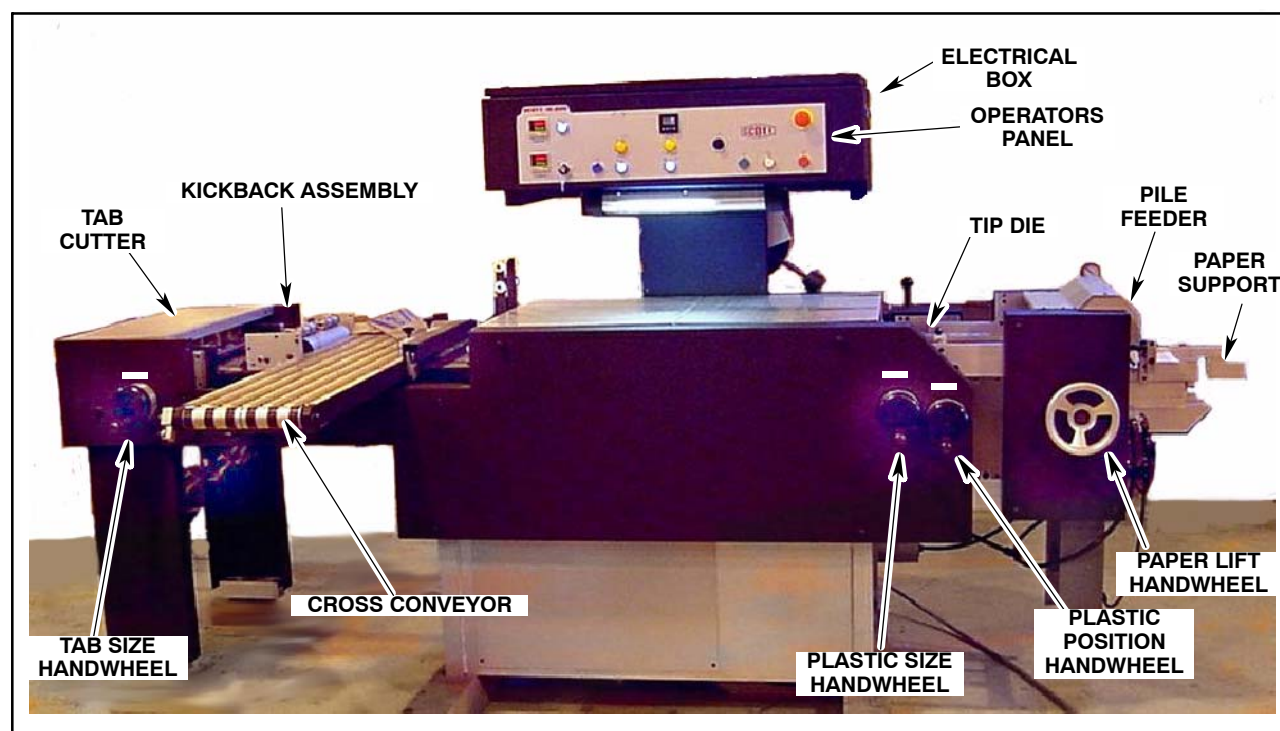
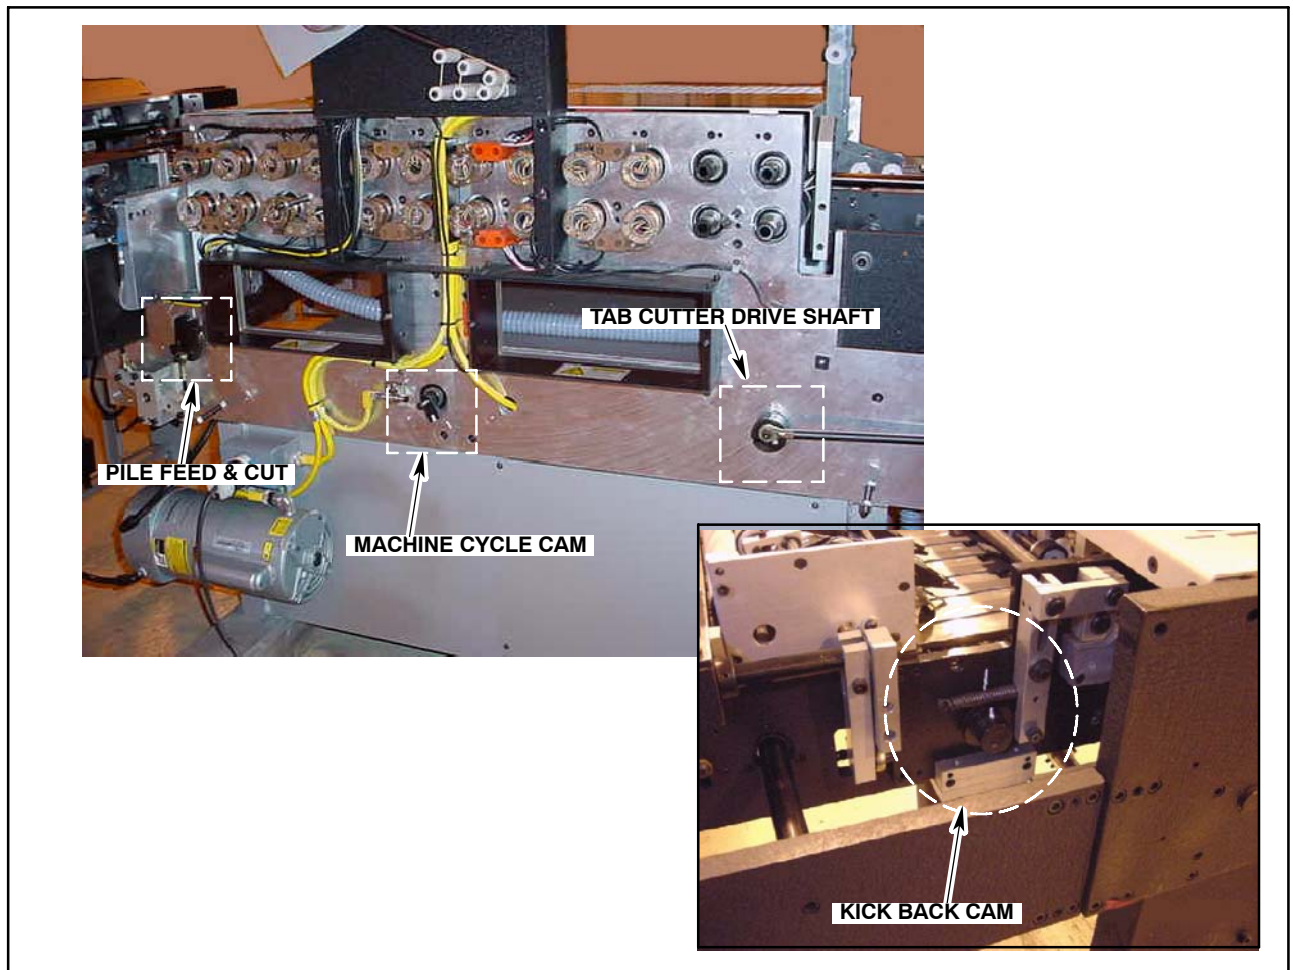
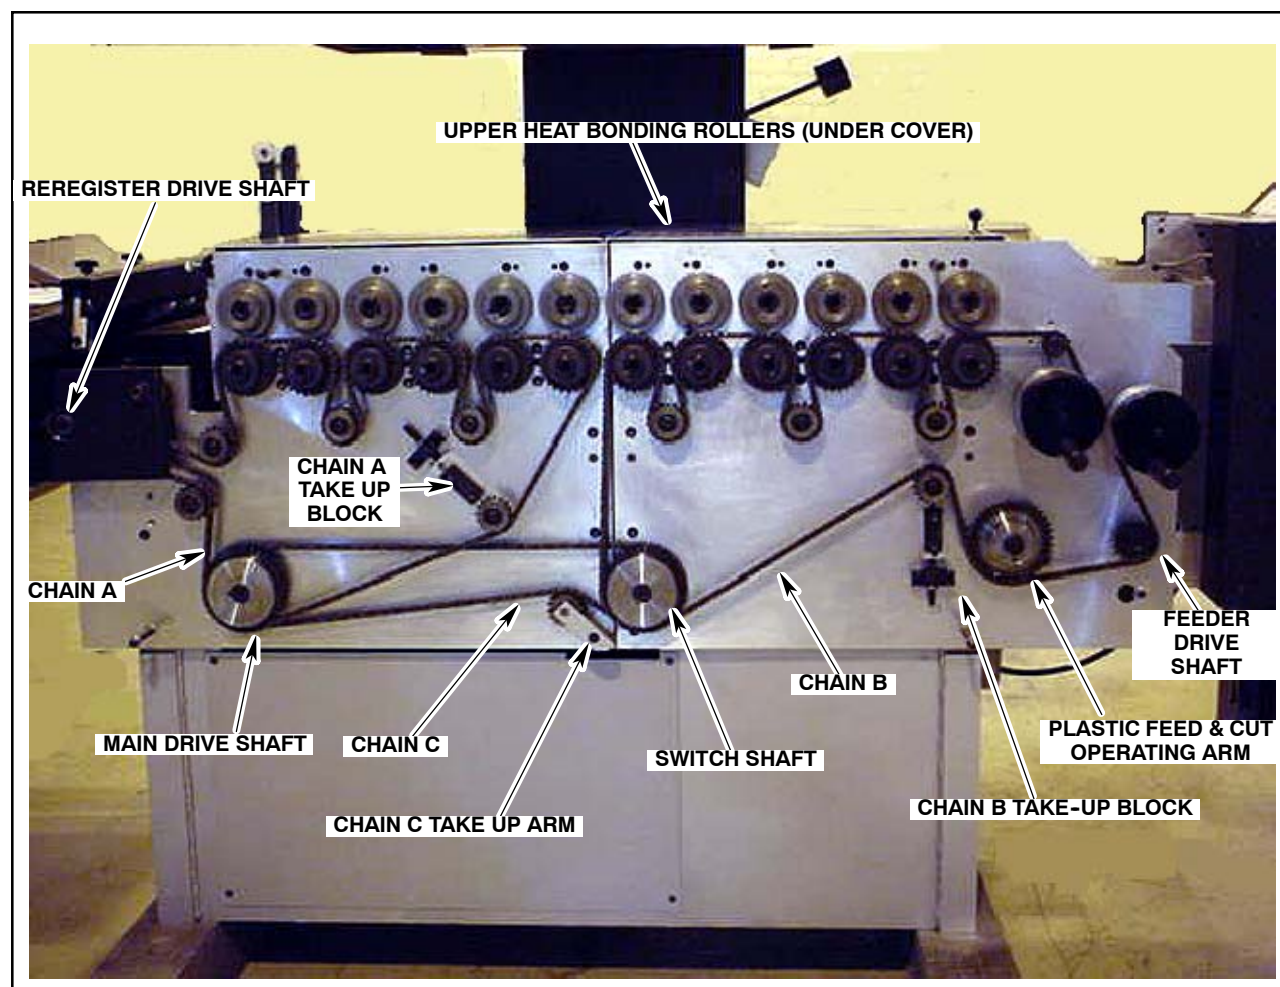

Fig. 4-10. Machine Front View
Fig. 4-11. Machine Back View - Guards Must Be Removed To View Parts
Fig. 4-13. Drive Chain Identification - Covers Removed
Note ! *Fig. 4-10. and Fig. 4-11. provide views of the front and rear sections of the machine. Fig. 4-13. is a view of the drive chain connection. All figures within this section can be easily located on the machine by referring to the appropriate view and/or drive chain for component location.*
- Step: 4.** Turn feeder drive shaft sprocket counterclockwise to move nozzles through normal rotation cycle. (See Fig. 4-13.)
- Cycle paper pile feeder through two complete rotations. (See Fig. 4-13.)
- Turn feeder drive shaft counterclockwise to relocate nozzles in correct position. (See Fig. 4-13.)